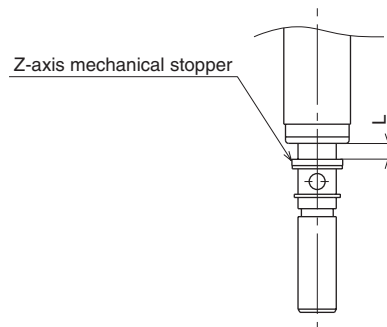

Fig. 4-4
- 9) Adjust the distance (L) between the Z-axis mechanical stopper and the axis end so it is set to the value shown in Table 4-1. Then tighten the four bolts to reassemble the Z-axis motor. (See Fig. 4-4.) At this point, do not allow the spline shaft position to shift from the correct height.